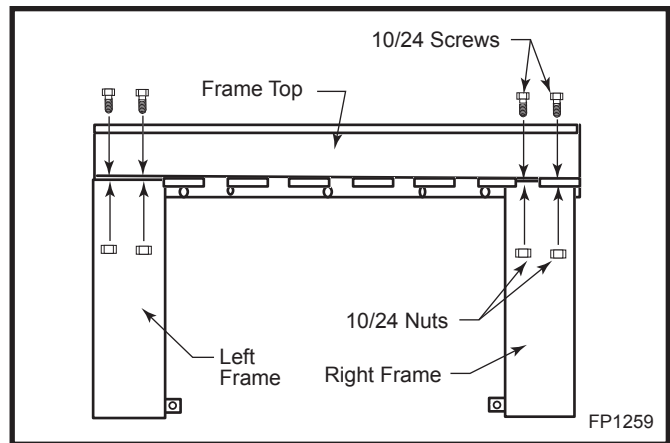

Fig. 38 Attache left and right frame to frame top.
2. Install the nuts and bolts. (Fig. 38)